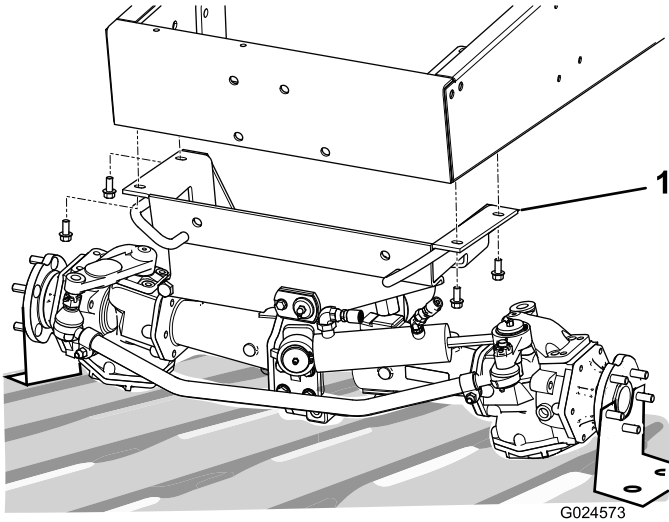

Figure 2
- Rotate the top of the axle assembly upward until the mounting holes are aligned with the holes in the frame (Figure 2).
- Install and tighten the (4) 3/8 x 7/8 inch flange head screws to secure the axle assembly to the rear frame. While tightening the screws, make sure that the (2) mounting holes on the rear of the frame align with the axle frame holes (Figure 2).